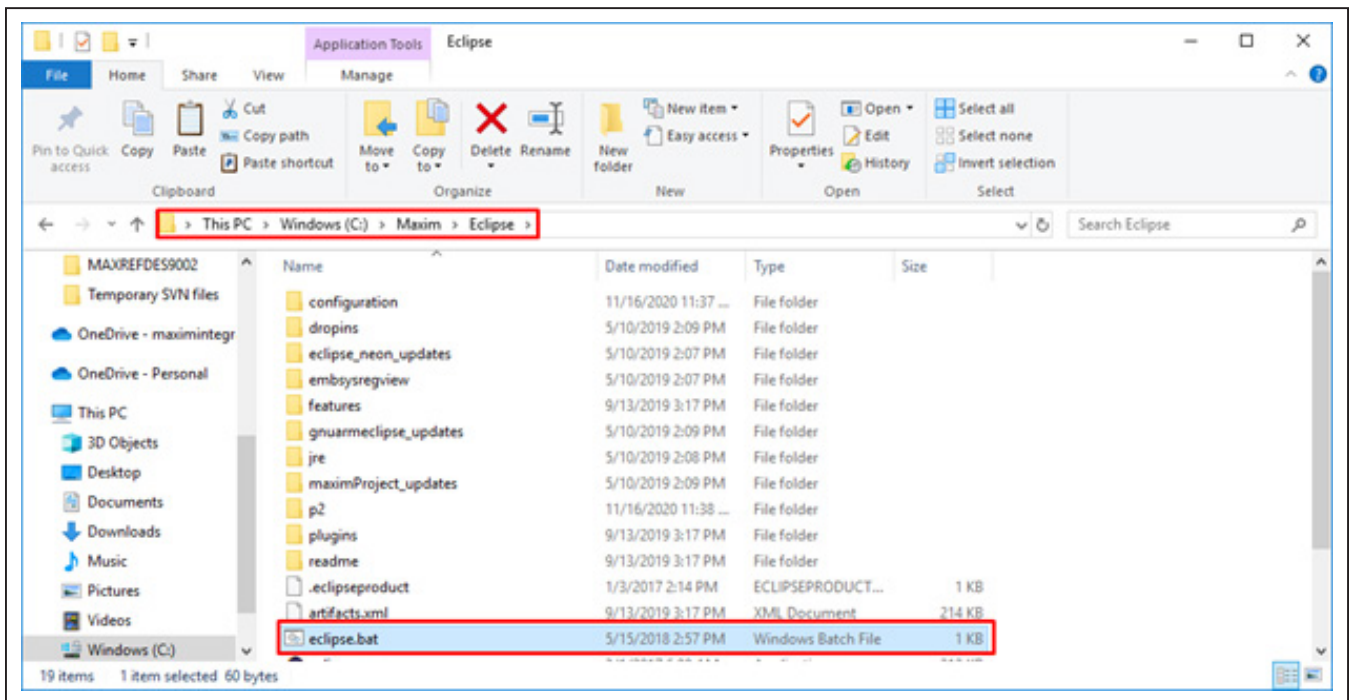

Figure 4. Eclipse launch location.
- 4) Navigate to the toolchain's install directory, open the **Eclipse** folder, and run Eclipse.bat to launch the Eclipse IDE as shown in Figure 4.